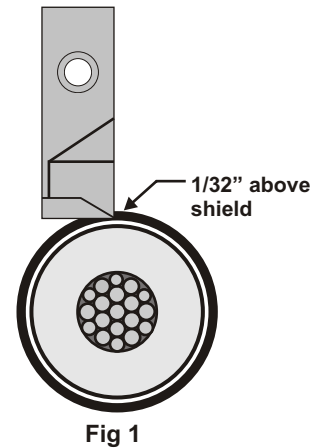
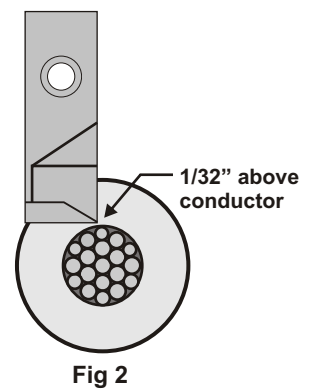

Fig 1
Fig 2
3. To position stripping blade correctly, adjust the blade depth by turning adjustment knob B. The proper setting is approximately 1/32" above the semi-conductor shielding (fig 1) or the same 1/32" above the conductor when end stripping (fig 2).